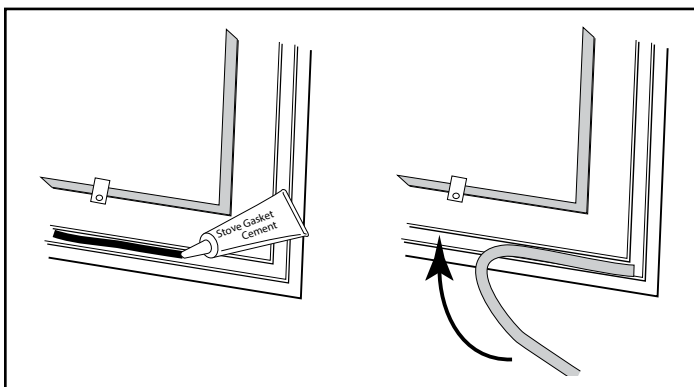

Figure 47 - Lay a bead of gasket silicone or cement then press gasket in place.
5. Lay an unbroken 1/8" (3 mm) bead of silicone or cement in the newly-cleaned channel. (Figure 47)
6. Starting at one end, press the gasket into the channel. (Figure 47) Ensure a good joint where the gasket meets before trimming any excess. Do not overlap the gasket ends or leave ends with ragged edges.